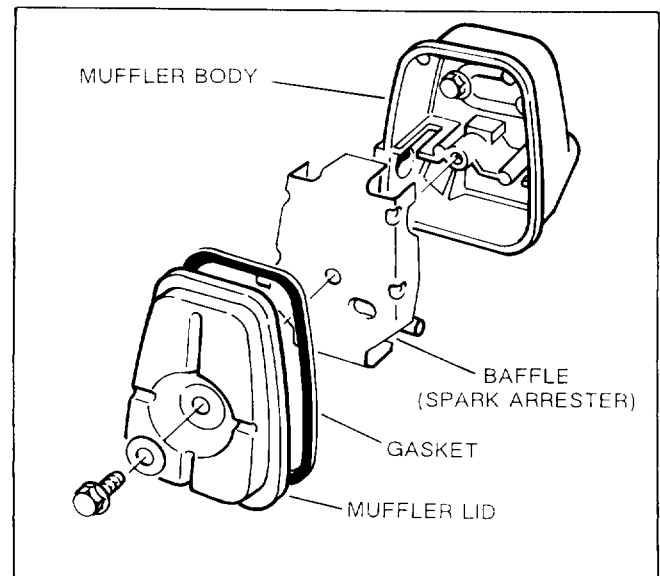

Figure 2
2. Remove screw securing muffler lid, gasket, and baffle to muffler body (Fig. 2).
3. Remove baffle from inside muffler body (Fig.2).
4. Install new spark arrester baffle into muffler body (Fig. 2).
5. Make sure muffler gasket is still useable (replace, if necessary) (Fig.2).
6. Install muffler lid and gasket to muffler body with screw previously removed (Fig. 2).